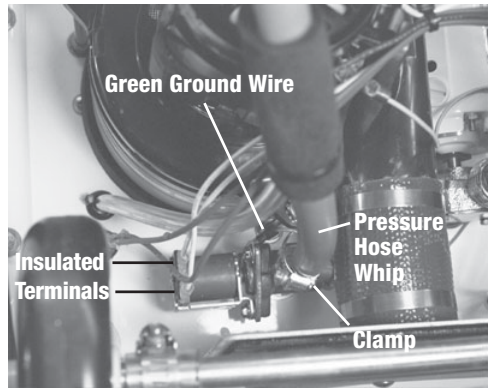

Figure 14
3. Pull both insulated terminals off solenoid (fig. 14).
6. Loosen clamp and remove pressure hose whip (fig. 14).
7. Unscrew and remove green ground wire (fig. 14).